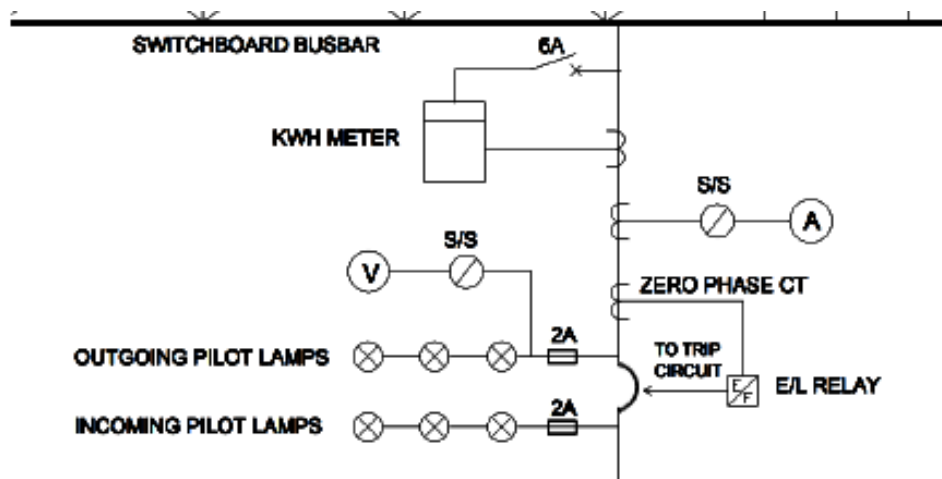

Figure 11-6 – Incoming accessories when $100\text{ A} < I_T < 300\text{ A}$
- ❖ **Figure 11-6** – for the incoming current more than 100 Amp, but less than 300 A, i.e. **$100 \text{ A} < I_T < 300 \text{ A}$** , and
For incoming set-up as per Figure 11-6;